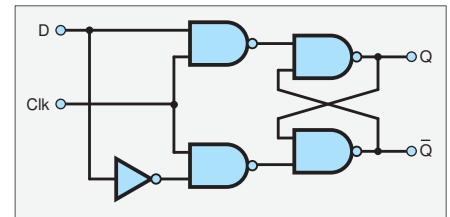
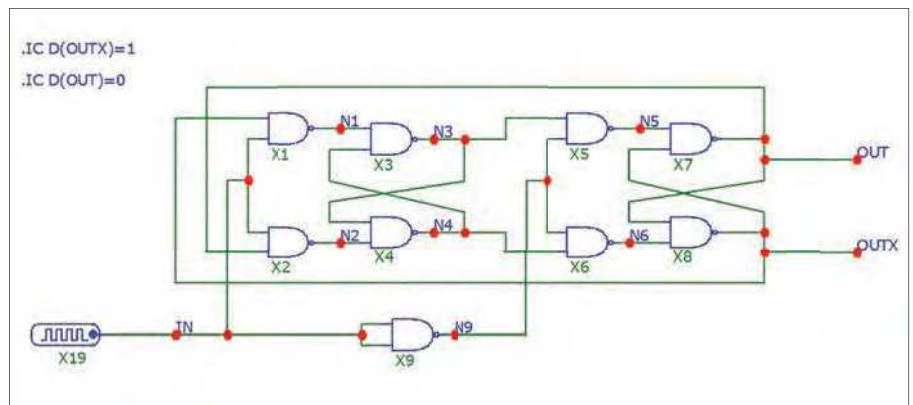
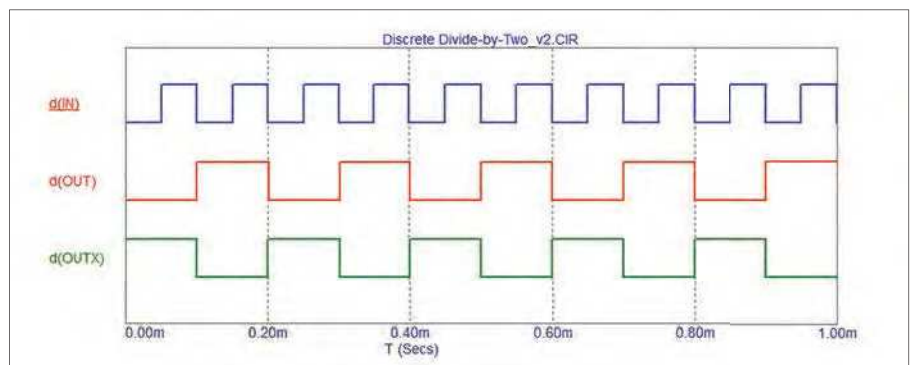

Fig.16. Data latch using a NAND SR flip-flop.
Fig.17. Divide-by-two circuit based on two D latches.
Fig.18. Micro-Cap 12 simulation of the circuit in Fig.17 (all gate delays equal).
Another question that arises is can we build a similar circuit which does not suffer from the problems discussed above? One possibility is to make use of the data latch shown in Fig.16. This also uses a NAND SR flip-flop to store data, but does so under the control of a clock. It is configured so that the S and R inputs of the SR flip-flop cannot be active at the same time. When the clock (Clk) is low, the two NAND gates connected to the clock force the S and R inputs to the inactive state (1). When the clock is high the D input is passed through to the S and R inputs, but the NOT gate ensures that only one of S or R is active. The flip-flop sets or resets depending on the D value.
schematic for the suggested circuit is shown in Fig.17. This doesn't include the NOT gates from Fig.16 because we can use the complementary outputs from the SR flip-flops. Simulation results are shown in Fig.18, where the divide-by-two operation can be seen. The circuit is not immune from metastability – it can be caused by changing the latch clock and data at the same time, but to achieve this we would have to clock the circuit fast enough for the delay through the latches to match the clock period.